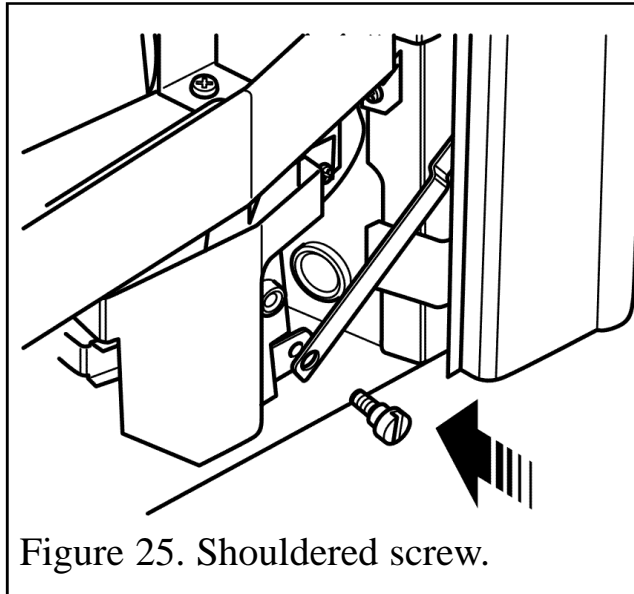

Figure 25. Shouldered screw.
2. Connect the control linkage to the control pivot plate using the shouldered screw and using a screwdriver (NOT finger tight only) (See figure 25).
4. Connect the control linkage to the control pivot plate using the shouldered screw previously removed and using a screwdriver (NOT finger tight only) (See figure 25).